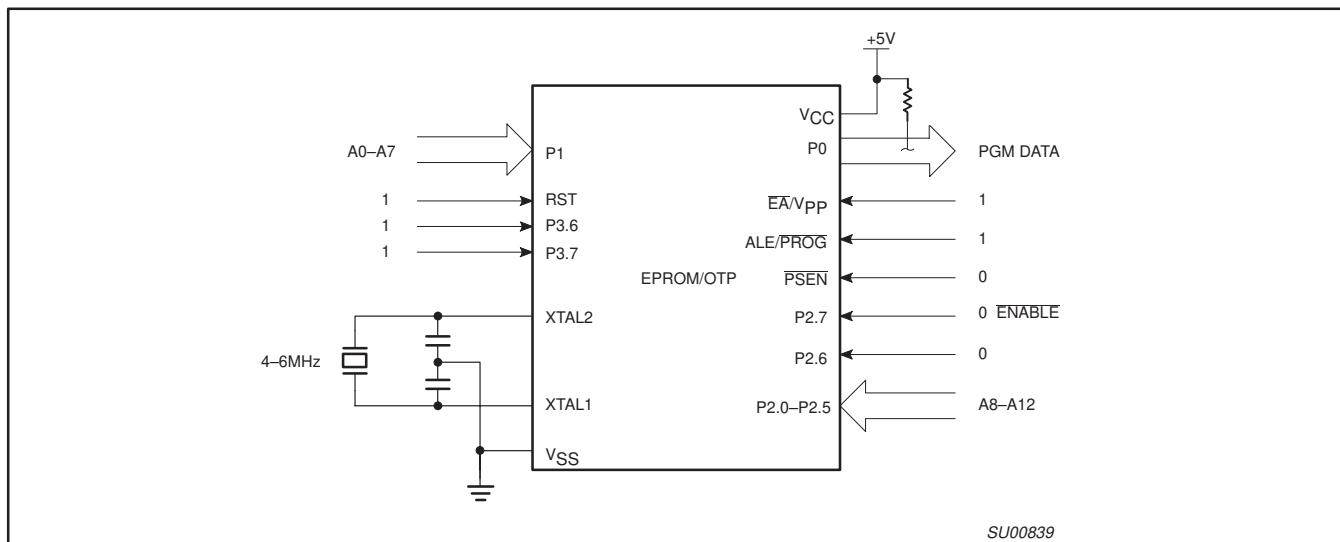

Figure 28. Program Verification
Table 8 shows the logic levels for reading the signature byte, and for programming the program memory, the encryption table, and the security bits. The circuit configuration and waveforms for quick-pulse programming are shown in Figures 26 and 27. Figure 28 shows the circuit configuration for normal program memory verification.
If security bits 2 and 3 have not been programmed, the on-chip program memory can be read out for program verification. The address of the program memory locations to be read is applied to ports 1 and 2 as shown in Figure 28. The other pins are held at the 'Verify Code Data' levels indicated in Table 8. The contents of the address location will be emitted on port 0. External pull-ups are required on port 0 for this operation.
- FOR VERIFICATION CONDITIONS SEE FIGURE 28.